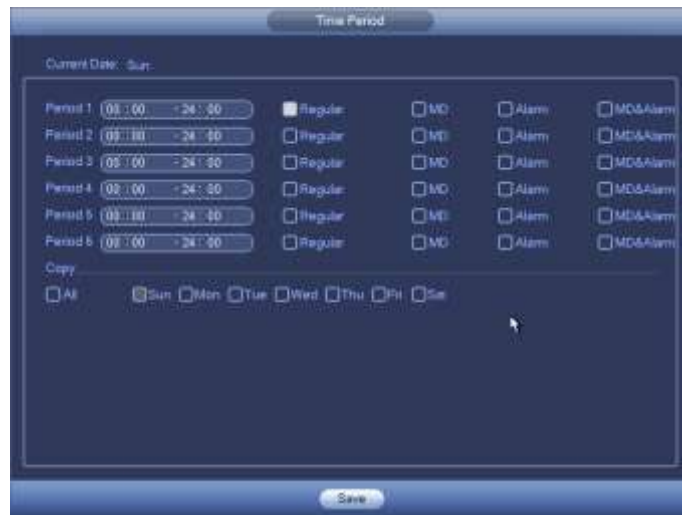

Figure 3-12
- Period setup: Click button  after one date or a holiday, you can see an interface shown as in Figure 3-12. There are four record types: regular, motion detection (MD), Alarm, MD & alarm.